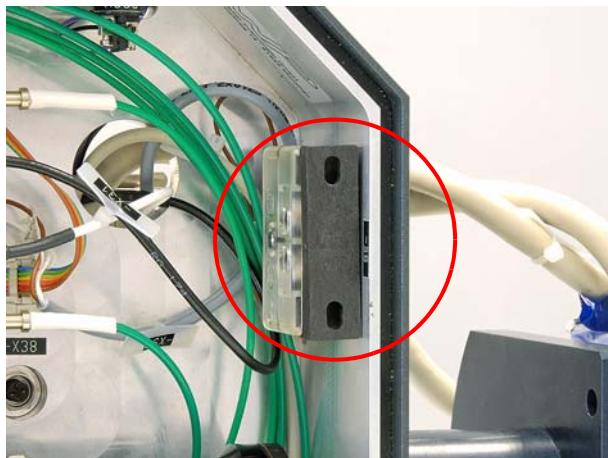

Figure 7.128 Interlock switch bridged
1. Bridge the interlock switch (Figure 7.128).